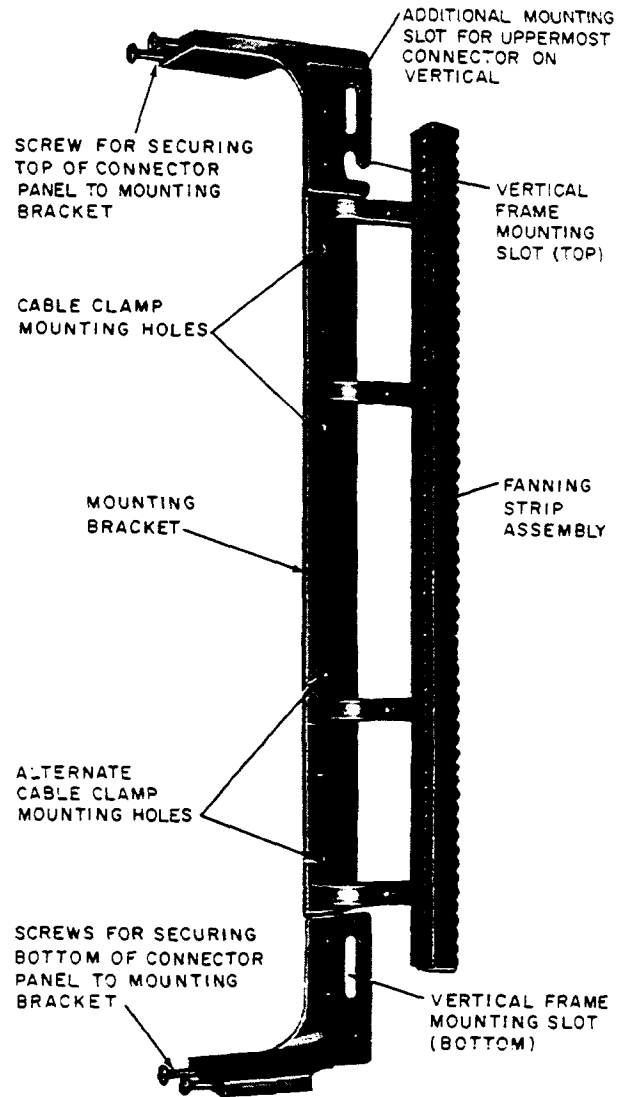

Figure 4—303-Type Connector Mounting Bracket
3.07 The 303-type connector is furnished with a mounting bracket to facilitate installing the connector on the frame vertical. The bracket shown in Figure 4 has three mounting slots spaced to align with the holes on standard main frame verticals.